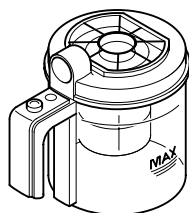

Fig.16
- Empty the dust container at the latest when the "Max" mark (Fig. 16) has been reached or when it is losing suction power.